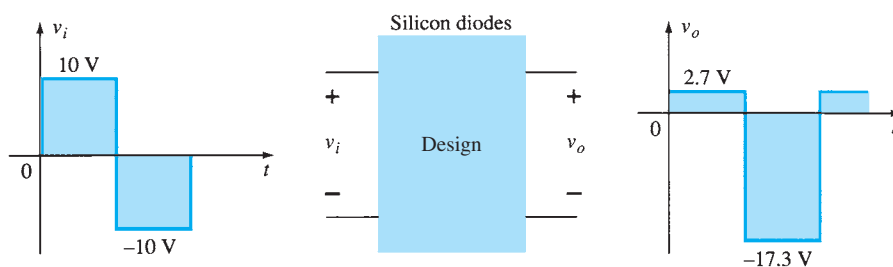

FIG. 2.185
*41. Design a clamper to perform the function indicated in Fig. 2.185.